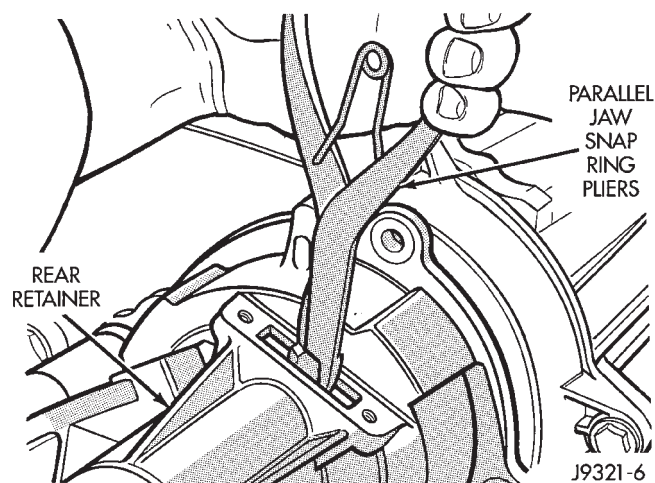
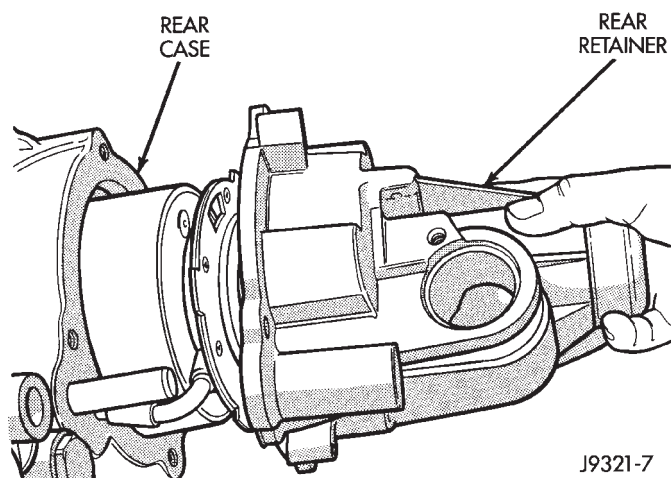

Fig. 6 Disengaging Rear Bearing Locating Ring
Fig. 7 Removing Rear Retainer
(7) Remove rear retainer as follows: Spread rear bearing locating ring with snap ring pliers (Fig. 6). Then slide retainer off mainshaft and rear bearing (Fig. 7).